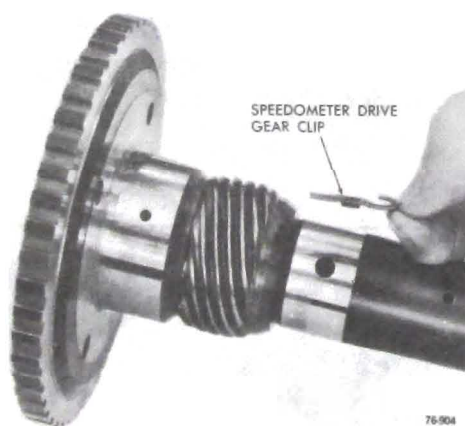

Figure 76-569
c. *Nylon Speedometer Drive Gear:* Depress retaining clip and slide nylon gear off output shaft. See figure 76-569.
d. To install, place retaining clip (square end toward flange of shaft) into hole in output shaft. See Figure 76-569.